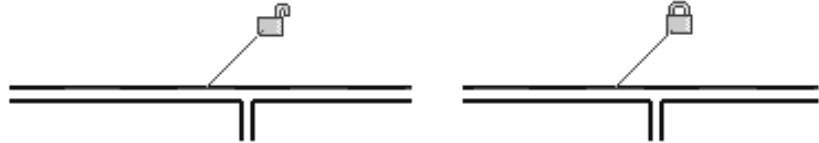

Figure 2–92
- You can lock alignments so that the elements move together if either one is moved. Once you have created the alignment, a padlock is displayed. Click on the padlock to lock it, as shown in Figure 2–92.